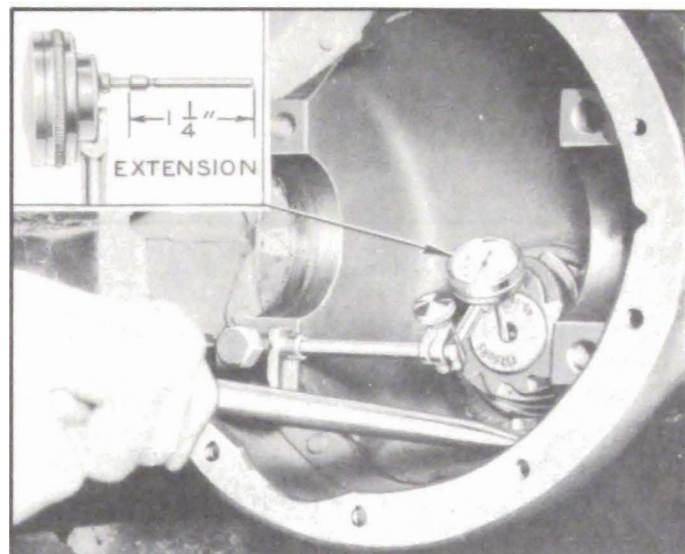

Figure 5-5—Testing Pinion Bearing Wear
2. At this point it may be desirable to test pinion shaft bearing wear without removing pinion shaft. Install $1\frac{1}{4}$ " extension on stem of dial indicator and mount indicator to bear down against center drilling in pinion gear, with indicator stem as near vertical as possible. See figure 5-5. Pry up on pinion gear with bar